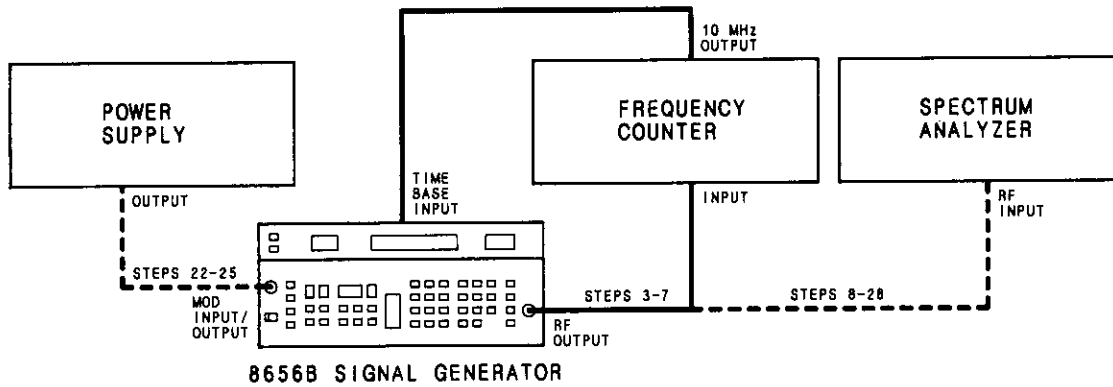

Figure 3-3. Test Setup for Basic Functional Checks
3. Connect the RF OUTPUT of the Signal Generator to the input of the frequency counter, and the 10 MHz reference output from the frequency counter to the TIME BASE INPUT located at the rear of the Signal Generator as shown in Figure 3-3.
8. Connect the RF OUTPUT of the Signal Generator to the input of the spectrum analyzer as shown in Figure 3-3.
24. Connect a power supply to the MODULATION INPUT/OUTPUT Connector of the Signal Generator as shown in Figure 3-3. Set the power supply for a +1 Vdc output and switch the voltage line on. Notice the LO EXT annunciator will remain on. The carrier frequency displayed on the Spectrum Analyzer should move three divisions to the right. The carrier frequency is off-set by 60 kHz.